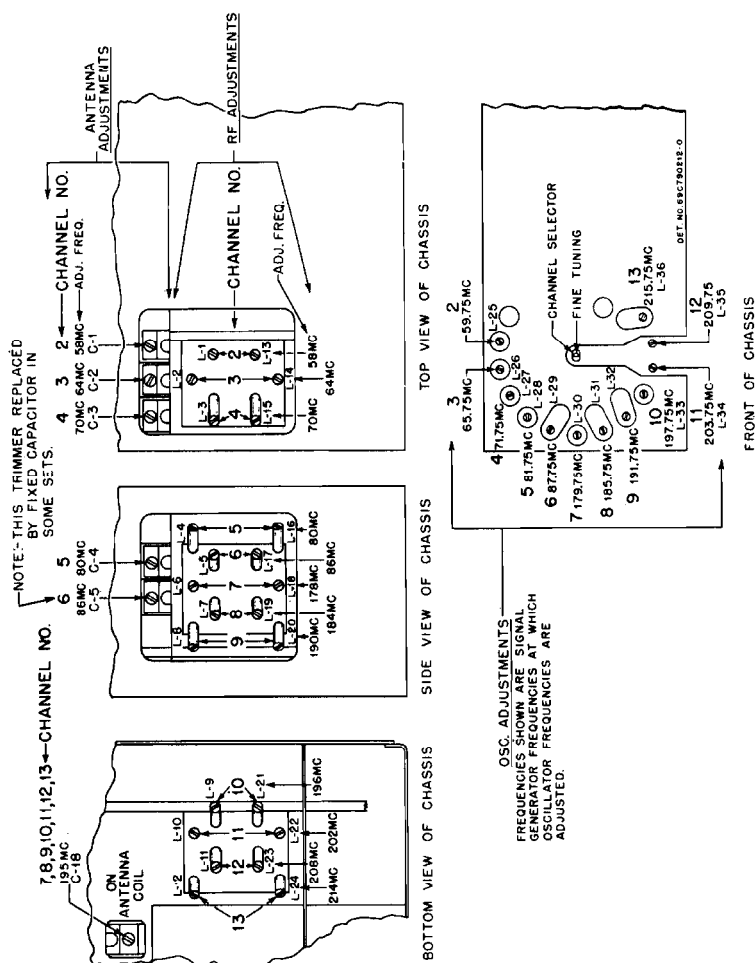

FIGURE 9. OSCILLATOR, RF & ANTENNA ADJUSTMENT LOCATIONS
The locations of the various adjustments are given in Figure 9. It will be noted that the oscillator adjustments are arranged in a counterclockwise sequence on the front side of the chassis, starting with the #2 channel as the first adjustment at the top.
7. Locate the oscillator tuning adjustment belonging to the channel being aligned. See Figure 9. With a non-metallic screwdriver, adjust the oscillator frequency until the reading on the meter is zero. The meter reading will change rapidly from one polarity, through zero, to the opposite polarity as the oscillator frequency is adjusted to produce the correct sound IF of 21.9 mc.
9. With the oscillator correctly set, the next step is the alignment of the RF amplifier. The RF coils for all channels and the antenna trimmers for the first five channels are aligned at a frequency 1 mc higher than the center frequency of the channel under test; that is, 4 mc above the lower channel limit, or 2 mc below the upper limit. See chart above for channels and Figure 9 for alignment locations and frequencies.
13. Antenna coil trimmers are provided for channels 2 through 6. See Figure 9 for locations. They are peaked for maximum output on the meter at the same frequencies used for aligning the RF coils.